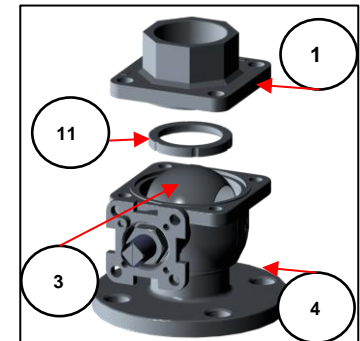

Figure 4-29
- 4.4.16 Place the end cap (item 1) with the seal (item 11) onto the valve body (item 4). (Figure 4-29)